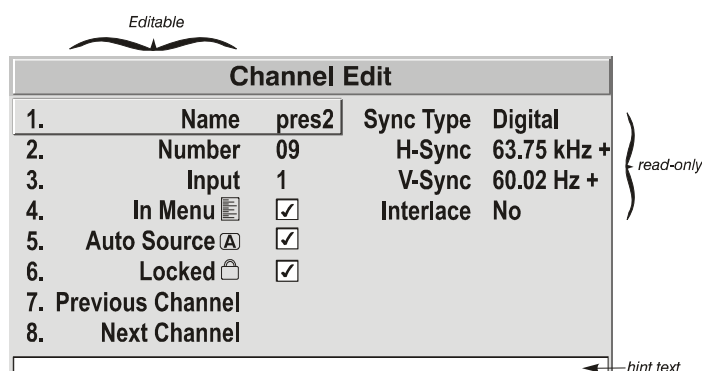

Figure 3-16 Channel Edit Menu (SAMPLE)
2. To edit parameters shown in the **Channel Setup** menu, select the relevant channel, and press **↩**. The **Channel Edit** menu appears as shown in the sample in Figure 3-16.